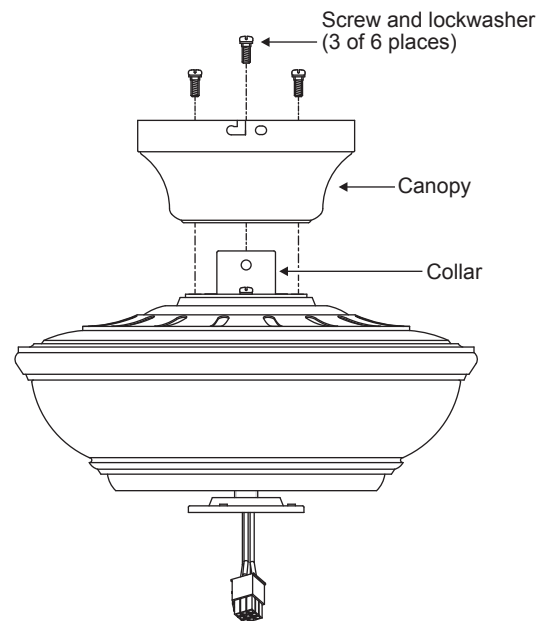

Figure 9
Step 4. Remove three of the six screws and lock washers (every other one) from the collar of top motor. (Fig. 9)
Step 5. Place the ceiling canopy over the collar at the top of the motor. Align the mounting holes with the holes in the motor and fasten using the screws and lock washers provided. (Fig. 9)